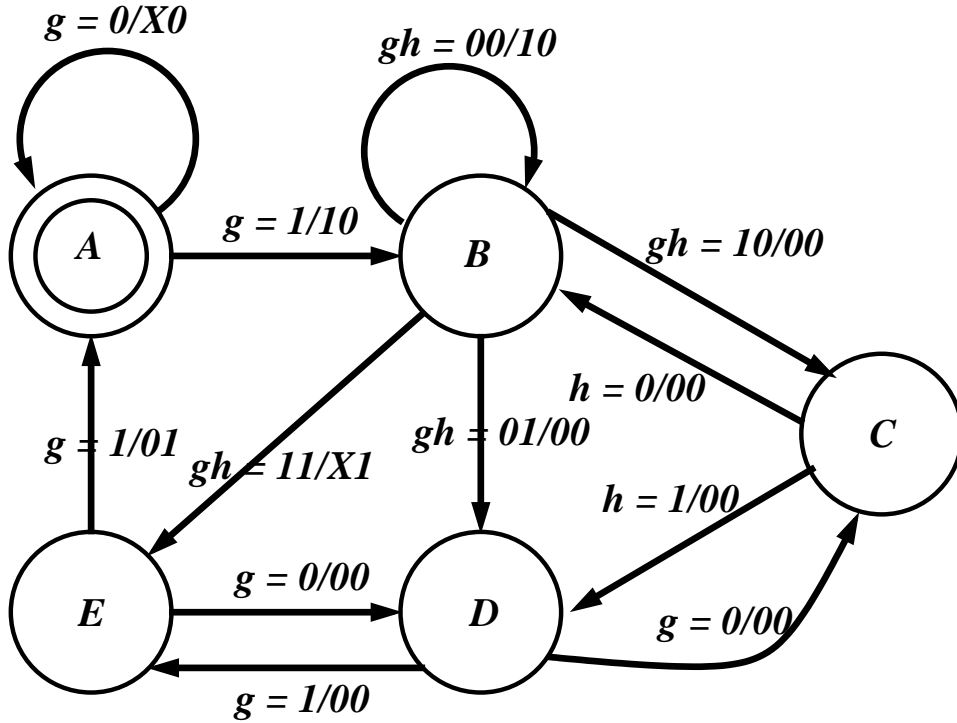

Figure 1: State Transition Diagram for Problem 1.
1. *State Machine Design.* Given the state machine transition graph in Figure 1, please write a Verilog description for the state transitions of this diagram. You need to provide signals for the *present* and *next* states of the machine, an module declaration for the entire machine (*clk*, input *g*, input *h*, output *Z1*, output *Z2*, and *reset*), an always block for the state transition behavior (expressed as if-then-else or case statements), and an always block for clocking and resetting the machine. Note that in the state transition graph, we show the transition behavior as  $g h = 00 / 1 0$  to indicate that the transition occurs when  $g = 0$  and  $h = 0$ , and causes *Z1* to be 1 and *Z2* to be 0. Assume that state *A* is the reset state for this machine. Turn in your Verilog behavioral description, timing waveforms for the behavioral description simulation, the Verilog synthesized logic description, and a plot of the logic schematic.